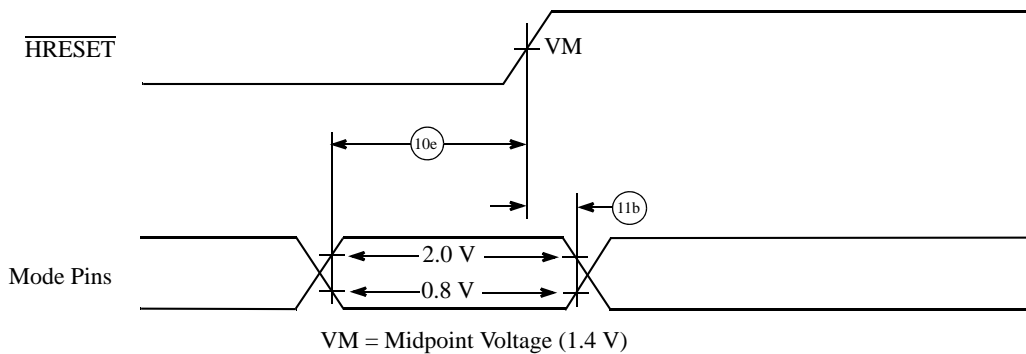

Figure 12. Input Timing Diagram for Mode Select Signals
5. All mode select input signal specifications are measured from the TTL level (0.8 or 2.0 V) of the signal in question to the $V_M = 1.4\text{ V}$ of the rising edge of the $\overline{\text{HRESET}}$ signal. See Figure 12.
Figure 12 shows input timing for mode select signals.